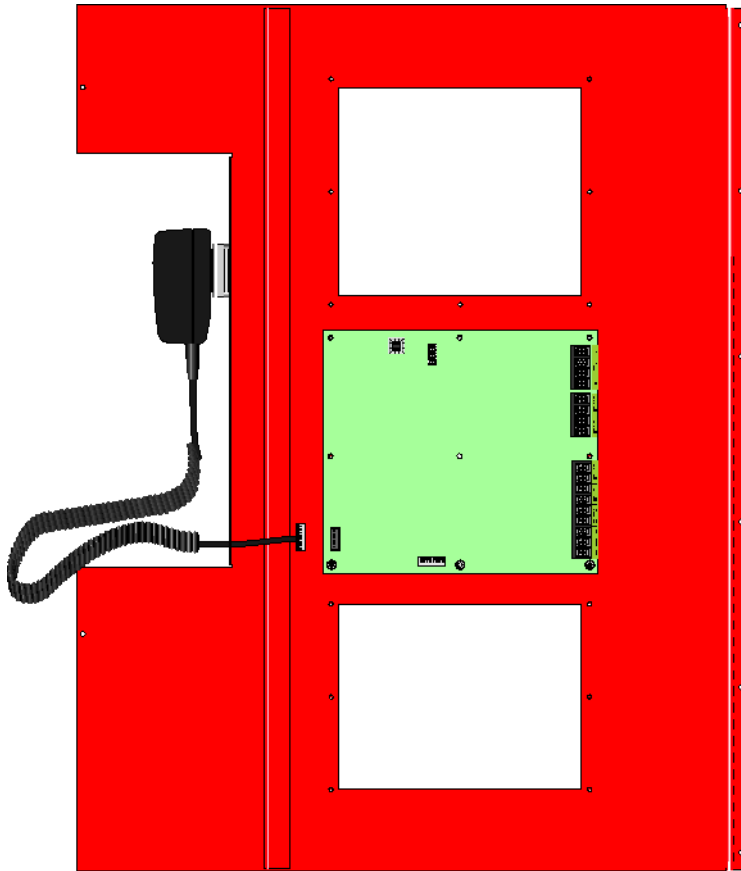

Figure 4-11 Back View of Dead Front Panel
4. Unplug the Microphone from the microphone connector. See Figure 4-11.